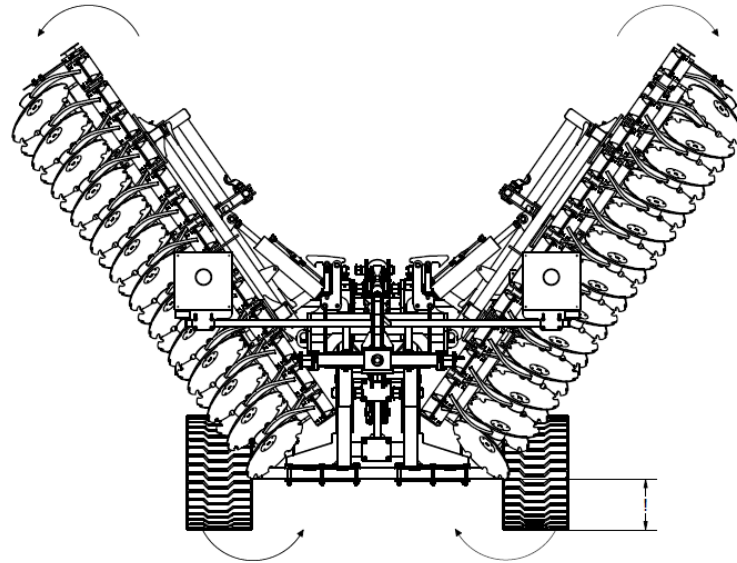

Fig. 7 Implement opening sequence: open the implement paying particular attention to the height of the arm ends from the ground.
4. When opening the implement's side extension arms, make sure that the ends of the arms are at the correct height to prevent them from catching on the ground (Fig. 7).